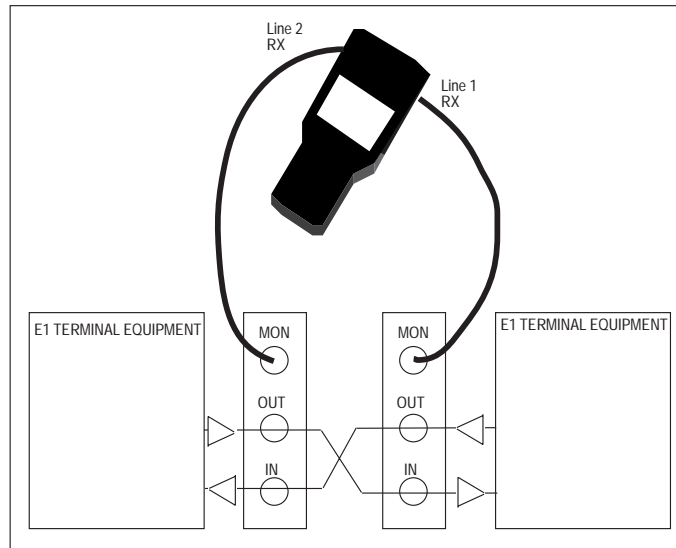

Figure 103 Monitor an In-Service Circuit, Monitor Mode
Here is a procedure for monitoring a span that is in-service. The setup is illustrated in Figures 103 and 104.
- 3) Connect the SunSet to the circuit as shown in Figure 103 or 104.